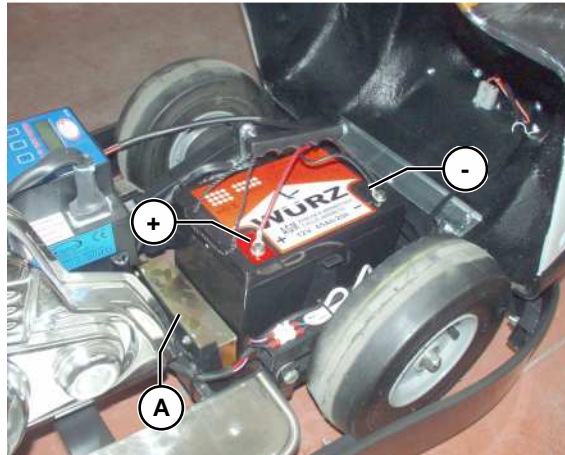

Fig. 4
1. Place the battery in its housing as shown in fig. 4.
*On models with direct drive, you can also install 100/120A batteries by removing the spacer (A).*